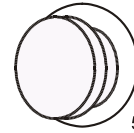

Fig. 4.11.
If the operator's safety or health is in danger, it is possible to stop the machine by pressing the „emergency stop“, fig. 4.11., on the ironer's stands or pushing the finger guard fig.4.6.A., pos1.